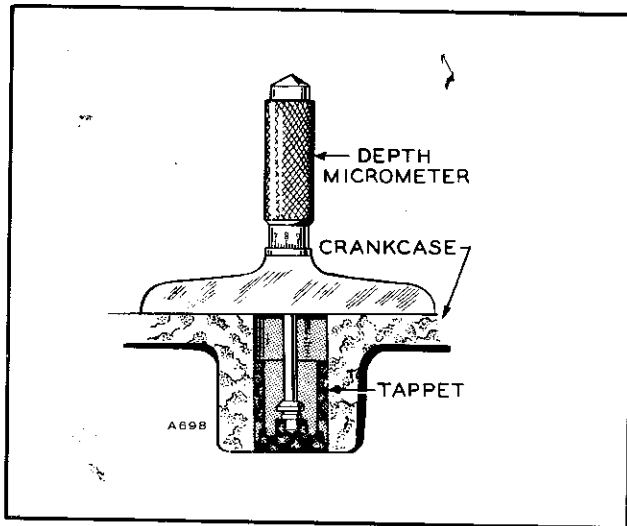

FIGURE 3-14. DEPTH MICROMETER MEASUREMENT
1. Install pump tappet in its recess and position flywheel on port closing mark (PC) of compression stroke.
2. Using a depth micrometer, measure distance from pump mounting pad on crankcase to tappet center. See Figure 3-14.